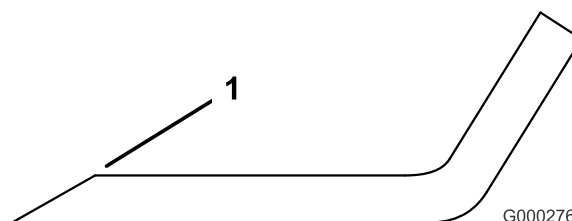

Figure 102
- Use a file to sharpen the cutting edge at both ends of the blade (Figure 102). Maintain the original angle. The blade retains its balance if the same amount of material is removed from both cutting edges.